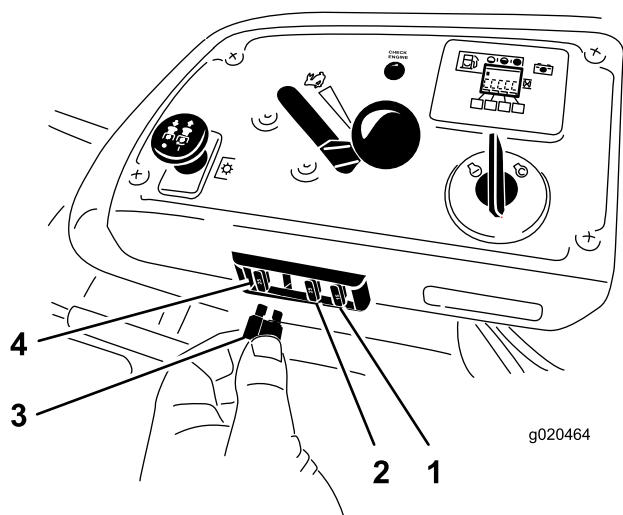

Figure 61
1. The fuses are located on the console to the right of the seat (Figure 61).
3. Install a new fuse (Figure 61).